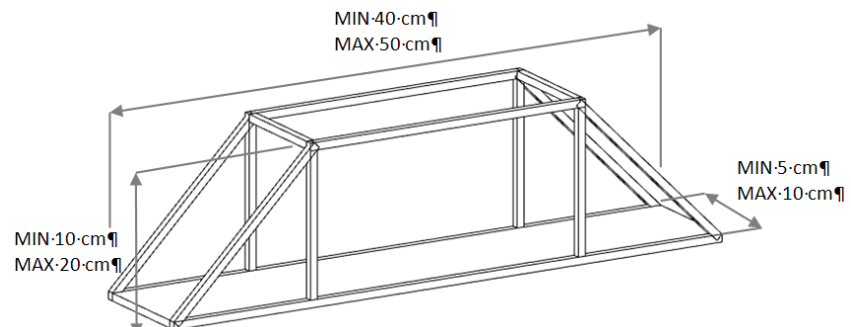
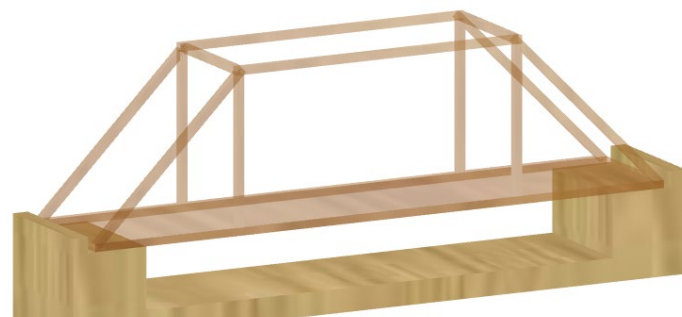

Figure 1 – “FOR EXAMPLE ONLY”
Figure 4
2. Teams are responsible for constructing the superstructure for their bridge. The foundation for the bridge shall be provided at the testing site. See Figure 1- Figure 4
4. The maximum allowable superstructure height is 20 cm. See Figure 1
5. The minimum allowable superstructure height is 10 cm. See Figure 1
7. The minimum width of the roadway shall not be less than 5 cm. See Figure 1
8. The maximum width of the roadway shall not exceed 10 cm. See Figure 1
9. The minimum length of the roadway shall not be less than 40 cm. See Figure 1
10. The maximum length of the roadway shall not exceed 50 cm. See Figure 1